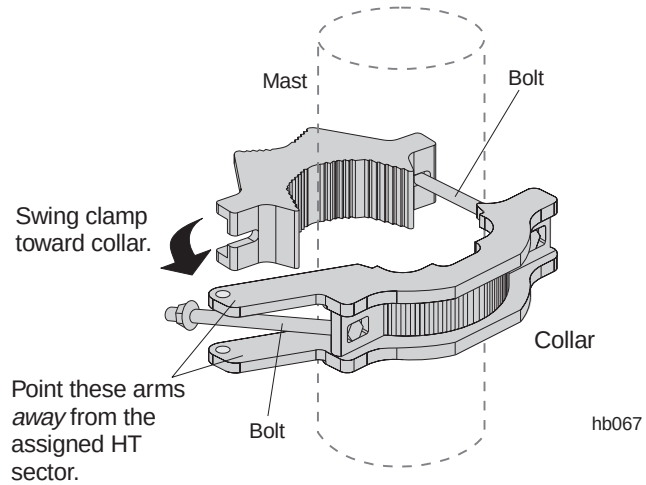

Figure 6-6 Attaching the temporary installation collar to the mast
1. Point the two long arms *away* from the direction of the HT, as shown in figures 6-6 and 6-7.